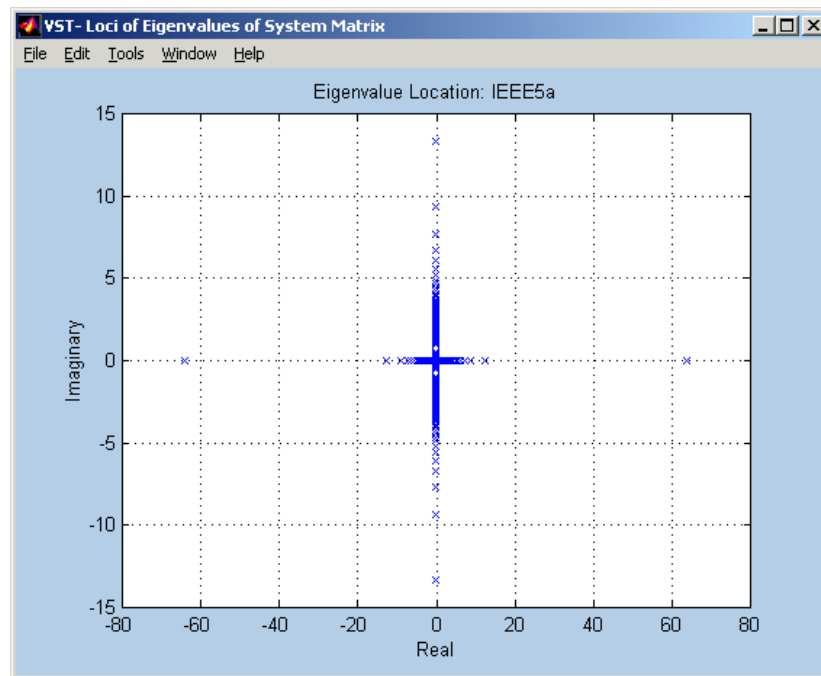

Fig. A.24 The eigenvalues of the reduced system matrix
- The resulting window plots the real parts of the eigenvalues vs. the imaginary part of the eigenvalues as shown in Fig. A.24.